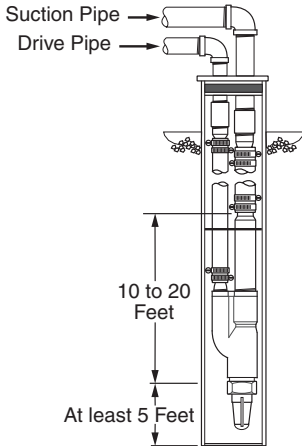

Figure 7
**NOTE:** As a guide, set the ejector 10 to 20 feet below the lowest water level reached with the pump running, but always at least five feet above the bottom of the well (See Figure 7).